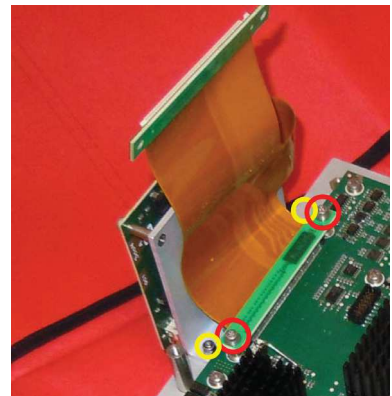

Fig. 7.16 Removal of PCB
- 7 Remove two screws and two nuts holding the connector and the support angle, respectively. See Fig. 7.16 \(p. 122\) - red circles indicate two screws on connector (tools 1/7), yellow circles indicate the two nuts holding the support angle (tools 1/2).